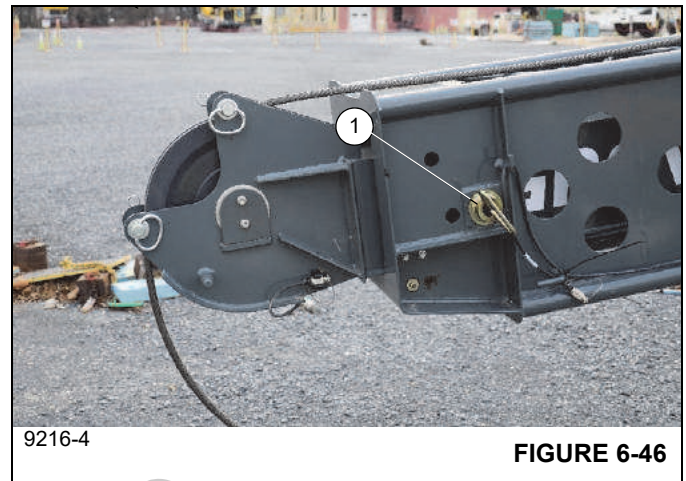

FIGURE 6-46
section align with the holes in the tip of the base section. Reinstall the pin and retaining clip (1), (Figure 6-46).